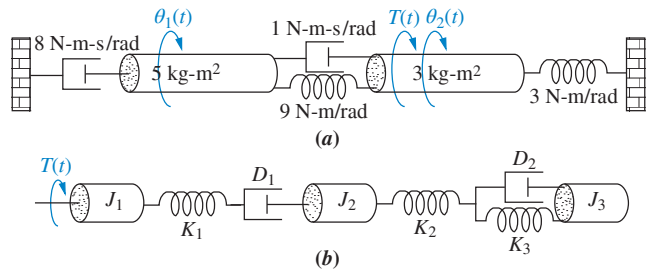

FIGURE P2.17
32. For each of the rotational mechanical systems shown in Figure P2.17, write, but do not solve, the equations of motion. [Section: 2.6]
51. Find the series and parallel analogs for the rotational mechanical systems shown in Figure P2.17(b) in the problems. [Section: 2.9]